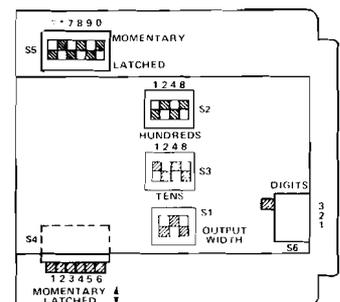

figure 4. Option switch locations
3.05 Six option switches must be set before the 6073 is placed into service. These switches and their functions are described in paragraphs 3.06 through 3.09. Locations of these switches on the module's printed circuit board are shown in figure 4.